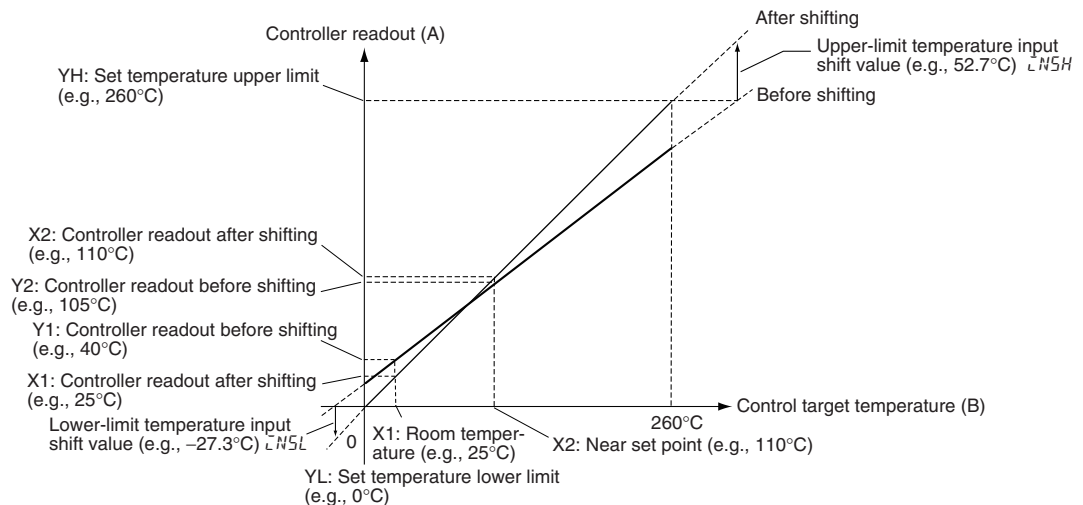

Figure 3 Illustration of 2-Point Shift
- Shift the Controller readout at two points, near room temperature and near the value at which the temperature of the control target is to be controlled. For this reason, check the thermometer temperature (B) and Controller readout (A) with the thermometer temperature near room temperature and near the set point.
- Set the upper-limit temperature input shift and the lower-limit temperature input shift using the following formulas based on the temperatures before shifting (Y1 and Y2), the temperatures after shifting (X1 and X2), the set temperature upper limit (YH), and the set temperature lower limit (YL). The shift is illustrated in *Figure 3*.